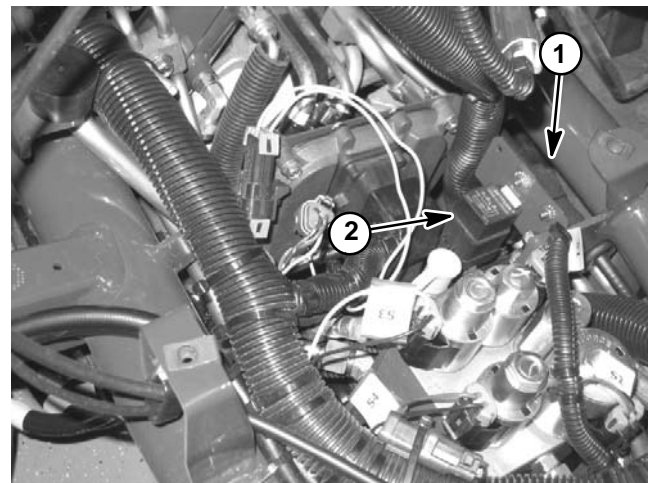

Figure 54
The Greensmaster TriFlex electrical system includes a five (5) terminal relay for current control. The kill relay is used only on Greensmaster 3300 machines. The start relay is used only on Greensmaster 3400 machines. These relays are located under the right side cover next to the operator seat (Fig. 54) and can be identified by a tag near the relay wire harness connector.